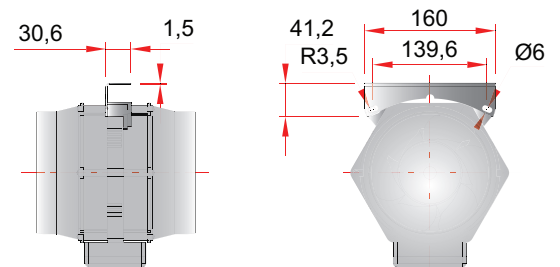
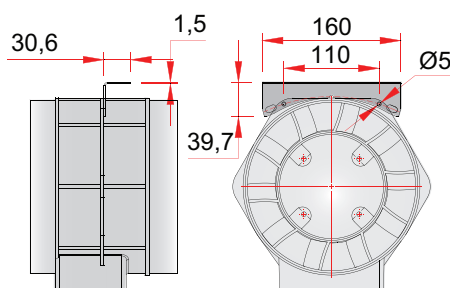
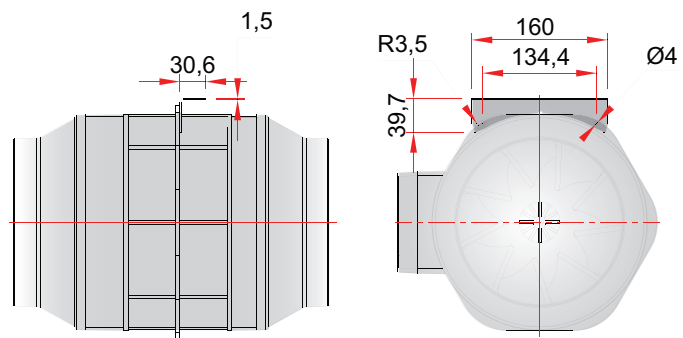

Figure1, RFE 100-150
Figure2, RFE 160L, 200M
Figure3, RFE 200L, 250M
- o with brackets and clamps. (As per figure 1 for RFE100 to 150, as per figure 2 for RFE160L and 200M, as per figure3 for RFE 200L and 250M)